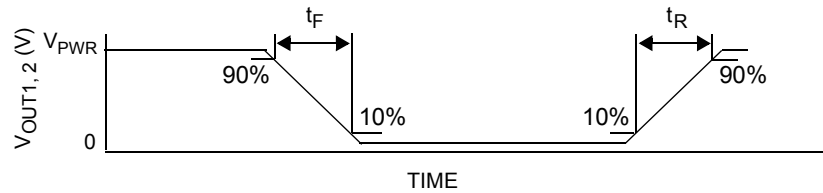

Figure 6. Output Switching Time
27. Rise Time is from the 10% to the 90% level and Fall Time is from the 90% to the 10% level of the output signal with $V_{\text{PWR}} = 14\text{ V}$, $R_{\text{LOAD}} = 3.0\text{ ohm}$. See Figure 6, page 11.